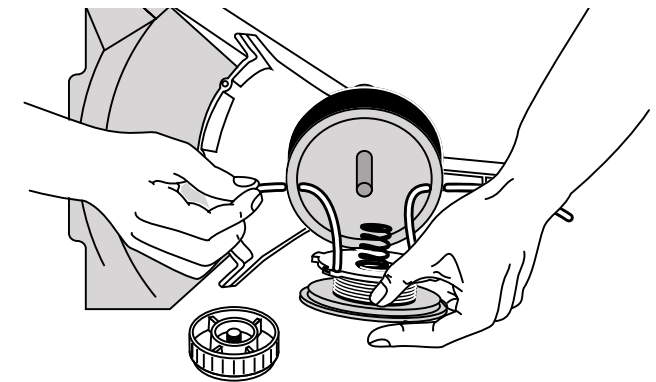

Fig. 38
- Place the spring in the inner reel. Insert the ends of the line through the eyelets in the outer spool and place inner reel inside the outer spool (Fig. 38). Push the inner reel and outer spool together. While holding the inner reel and outer spool, grasp the ends and pull firmly to release the line from the holding slots in the spool.
- Insert the ends of the line through the eyelets in the outer spool (Fig. 38).